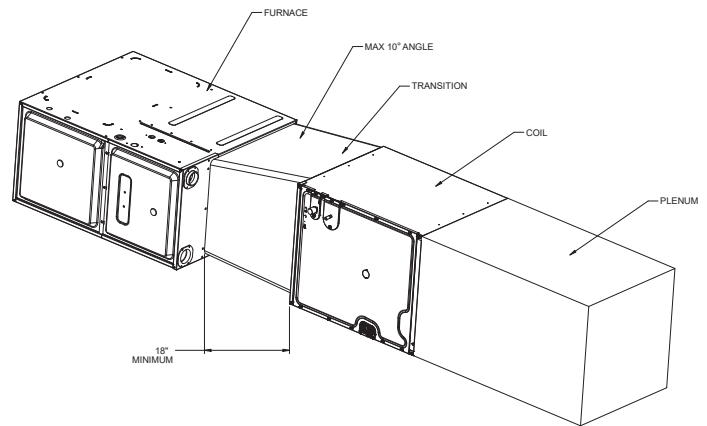

Figure 5E
1. Optionally a transition duct can be used to attach the coil with furnace, if z-bracket is not preferred to be used (see Figure 5E and 5F).